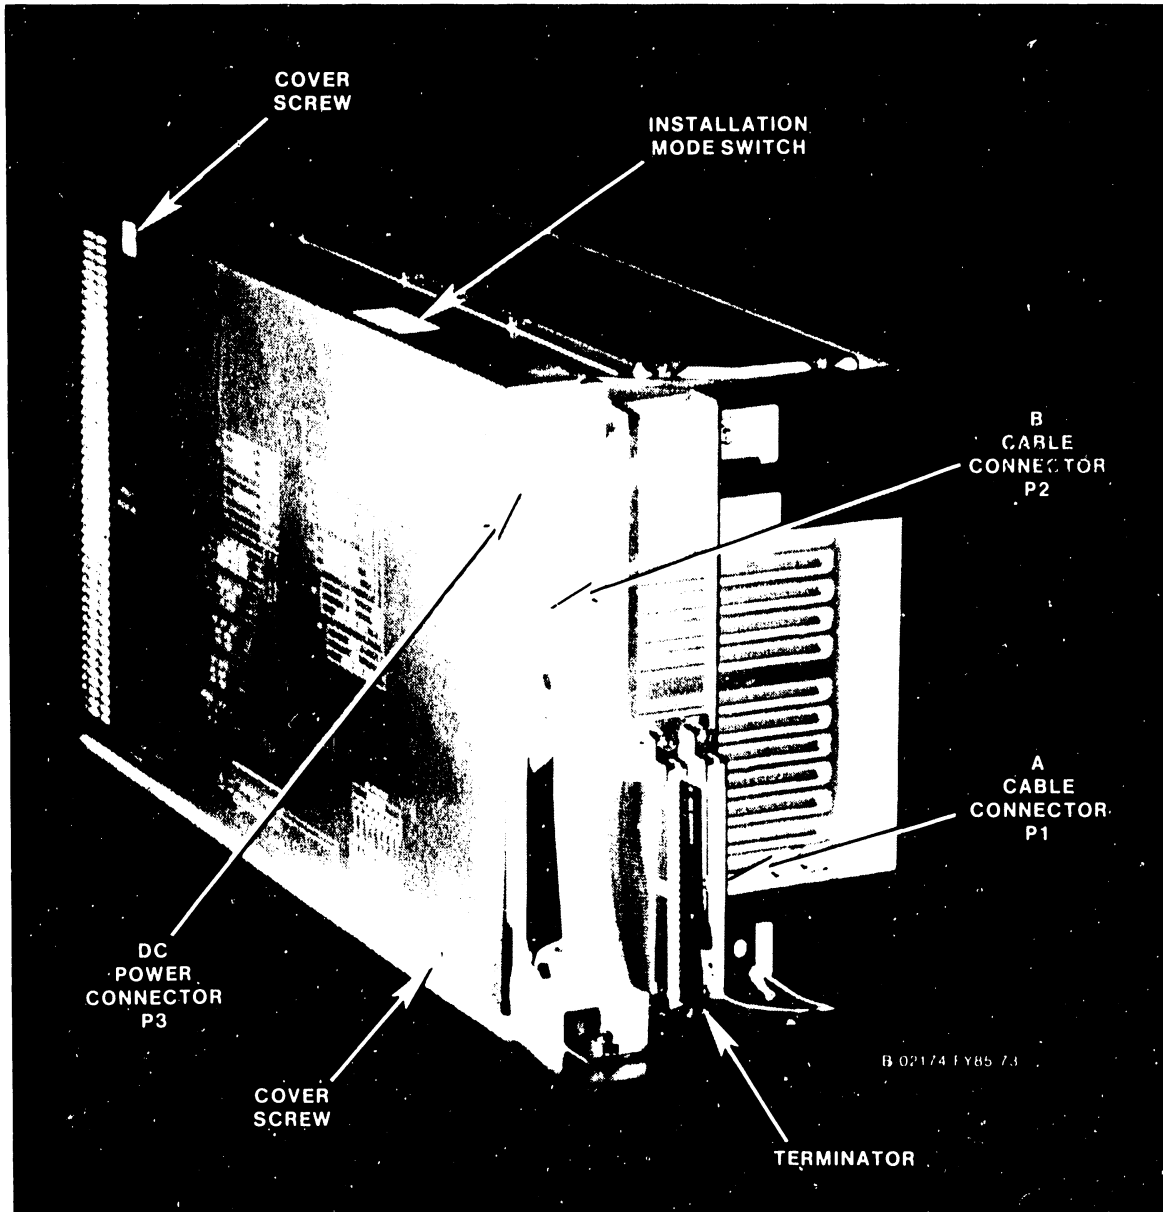

Figure 5-44. 147 Megabyte Disk Drive (Side View)
2. Remove the two Phillips screws (figure 5-44) from the upper right corner and the lower left corner of the PCB cover. Carefully lift off the cover exposing the backside of the PC board.